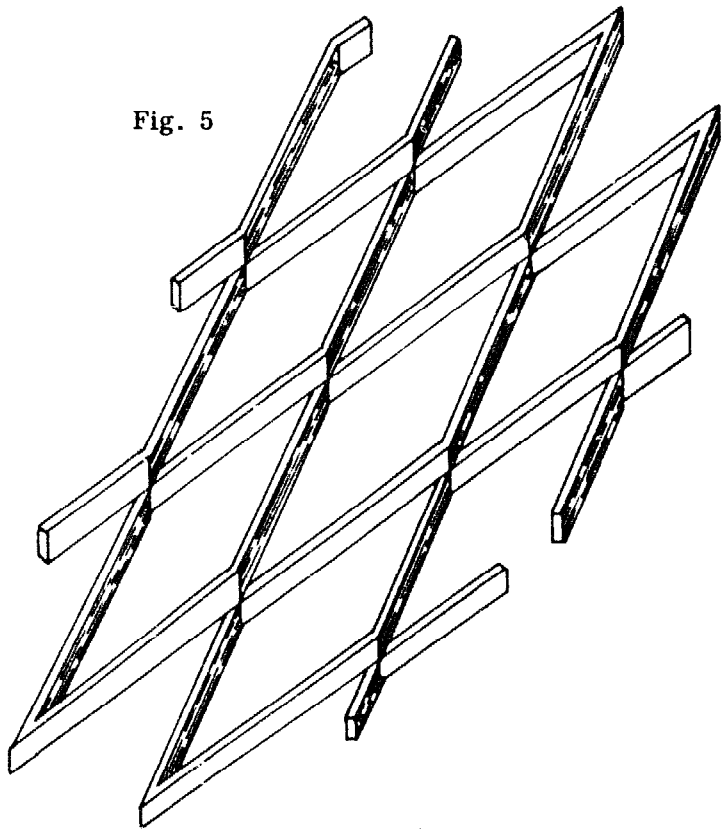

Fig. 5
- **EXPANDED METAL FABRIC:** This is made by slitting metal sheets and then stretching them to form a diamond-shaped mesh (Fig. 5). Always wear leather gloves when working with expanded metal fabric, as the edges are very sharp.